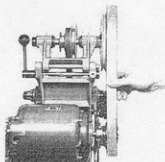

Fig. 13
*j* Slide the motor as far to the right as is possible without fouling the countershaft belt guard, but still permitting sufficient adjustment of the motor pulley on the motor shaft for the lining up of the motor and countershaft pulleys. Remove the countershaft belt guard and use the straight edge to align the motor spindle and countershaft, and also to line up the motor and countershaft pulleys. See Fig. 13. Tighten the grub screw in the motor pulley.